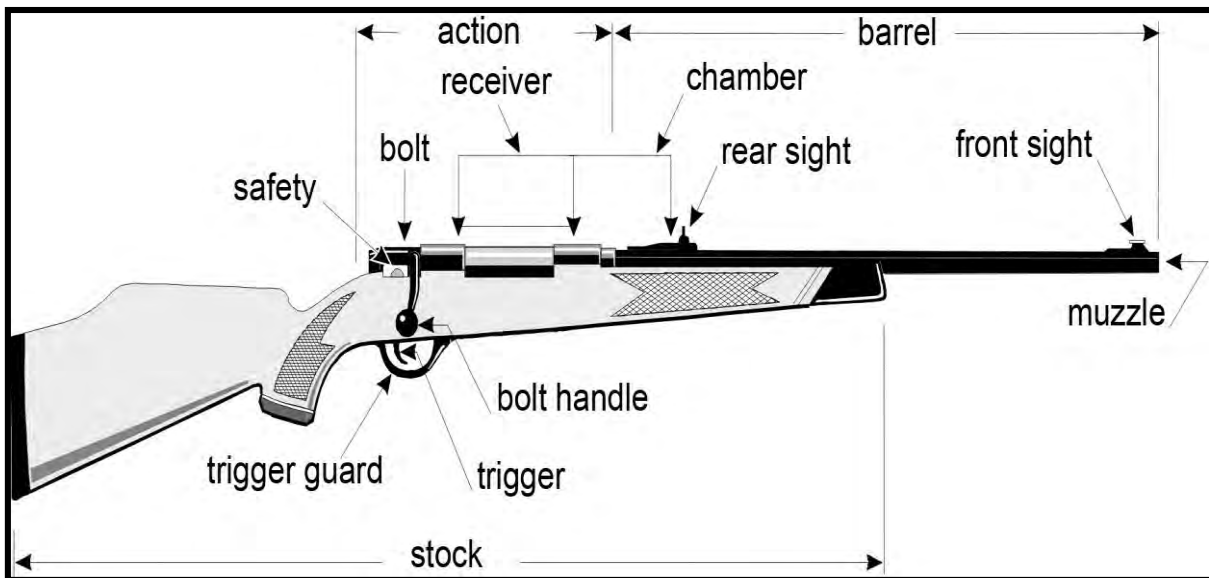

Figure 47. Bolt Action
- b. The safety mechanism is usually located on top of the action above the trigger area on the left or right side of the bolt. This is often a lever safety but can also be a slide/tang located directly behind the bolt (Figures 47 and 48).